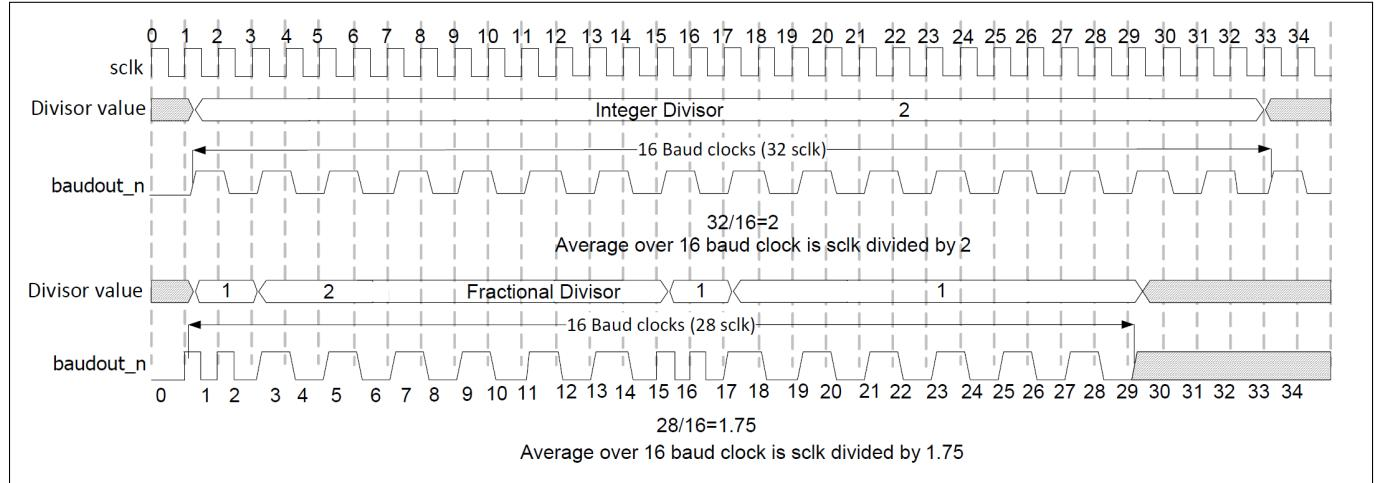

Figure 20.14: Example of Integer and Fractional Division Over 16 Clock Periods
As shown in the Figure 20.14, the fractional baud clock is generated between N(1) and N+1(2) values to generate the fractional baud rate of 1.75 to achieve the divisor baud rate of 892857 with 0% frequency error compared to 12.49% frequency error in integer baud clock generator.